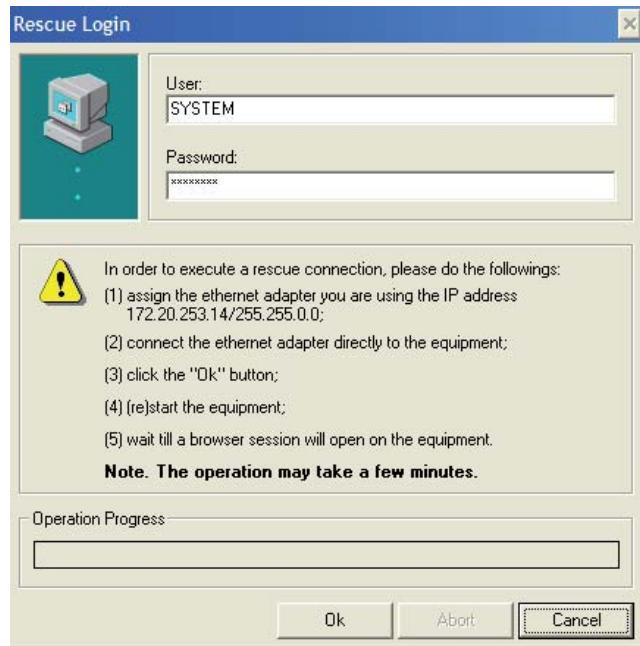

Fig.82 - Rescue connection using WLC
4. Type equipment user/password and follow the instructions of rescue login (see Fig.82)